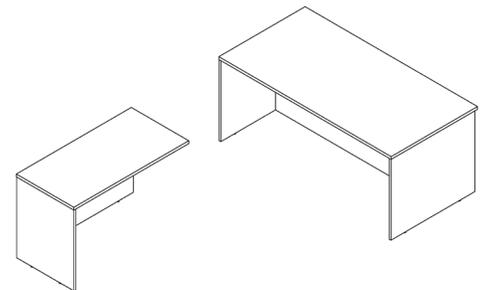

Figure 3: Attaching return to desk
Step 5: Place completed return adjust desk on the respected side (figure 3)